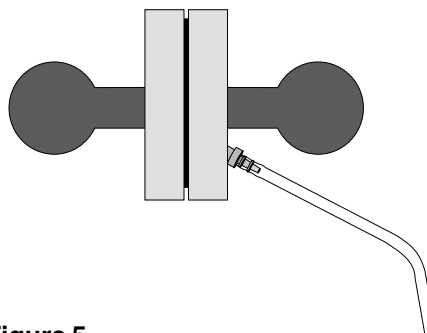

Figure 5
2. Disconnect part F from part E. (Check valve in part E maintains the vacuum) (Figure 5).